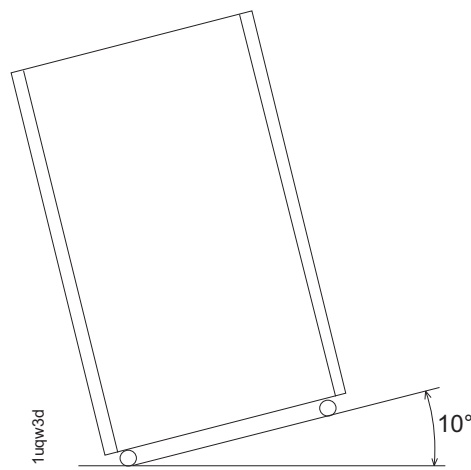

Figure 12. Maximum tilt for a packed frame is 10°
3. To compensate for the weight of the storage system shipment, ensure that the loading ramp at your site does not exceed an angle of 10°. (See Figure 12.)